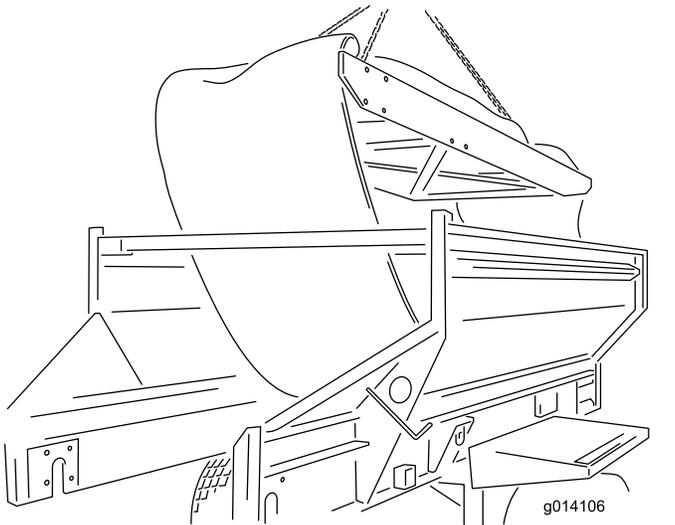

Figure 61
24. Remove the cartridge by lifting it out from the top of the machine. Place it on the ground (Figure 61).